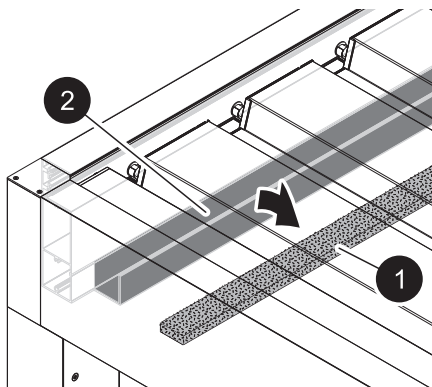

Fig. 17: Rainwater Channel
2. Remove mesh foam (Fig. 17/1) from rain gutters (Fig. 17/2) and clean with garden hose and flush with clear water.
3. Lubricate left and right pivot points (Fig. 17/1) of all slats.
4. Lubricate the pivot point on the driving pin (Fig. 17/2).